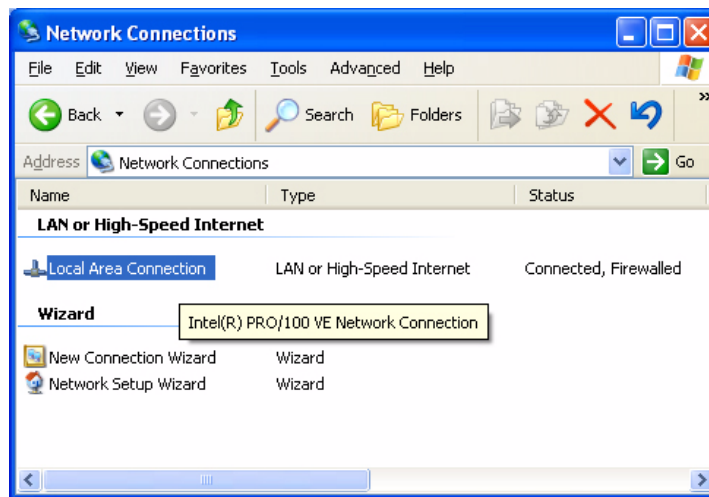

Figure 1-10. Network Connections
- From the Windows Network Connections window, the New Connection Wizard or the Network Setup Wizard can be launched, or the network connection can be manually configured by right clicking the Local Area Connection name in the Network Connections window (Figure 1-10) and select Properties from the pop-up dialog box. Refer to your network documentation or system administrator for information on configuring your network connection.